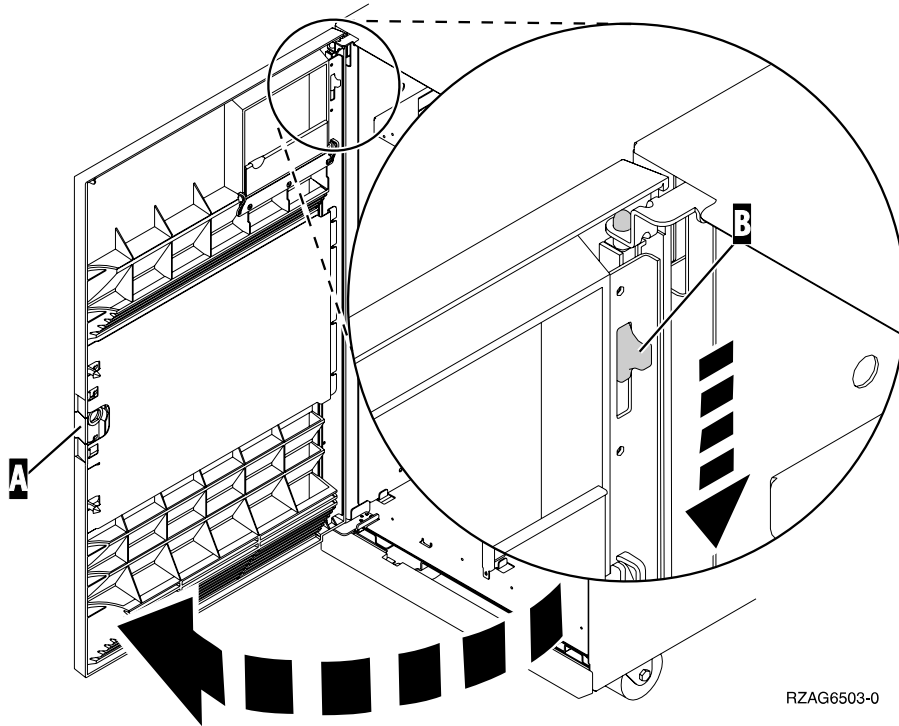
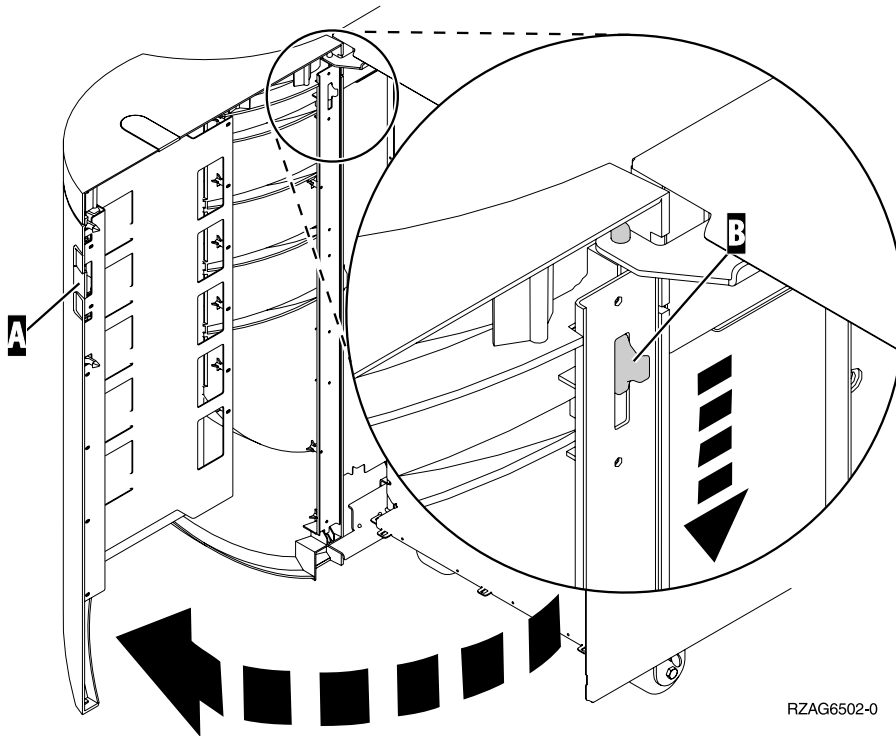

Figure 78. Front Cover - Removal
Figure 79. Rear Cover - Removal
- b. Tilt the top of the cover away from the tower and lift the cover off. See Figure 78 and Figure 79 on page 830.